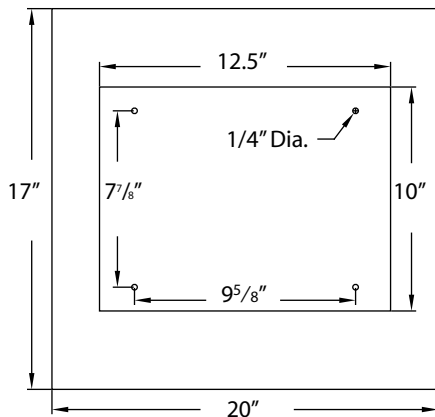

Figure 3 – Base Dimension and Required Space
Refer to Figure 3.
- Figure 3 shows the base dimensions, mounting holes and required space.